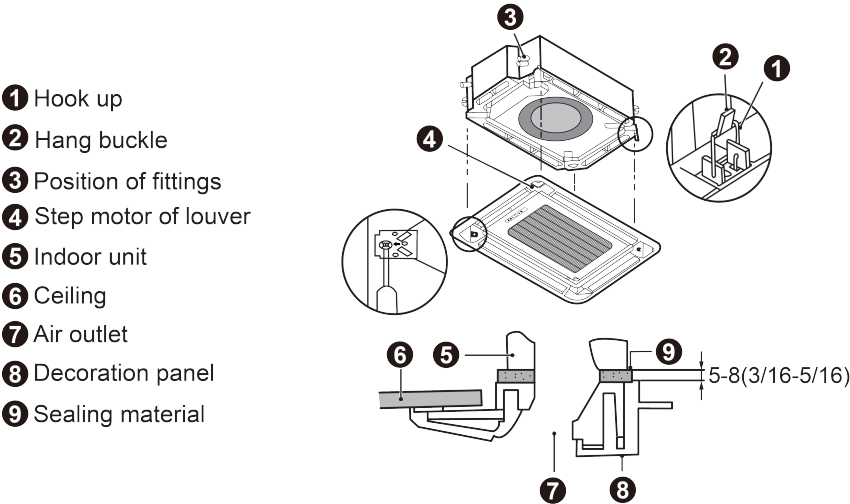

Fig.4.5.4
- (1) Detach the panel's Corner Cap, there is a mark "piping side" on one of the 4 corners, adjust the panel direction so as to keep the mark and fittings on the same corner.
- (2) Temporarily hang the panel to body (there are four hangers on each corner of the panel, hang the hangers to corresponding hooks on the body), as shown in Fig.4.5.4.
- (3) Detach the air inlet grille from panel, make a wiring connection of signal receiver. Notices that the connection wire not stuck in the middle of body and panel, or may cause air leakage and